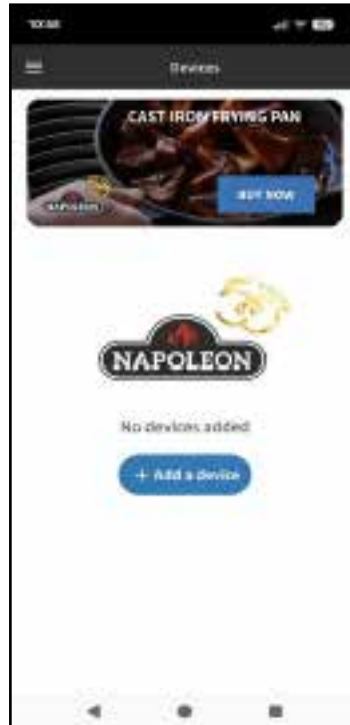

Fig 11
4. Select “Add Device” and accept permissions (**Fig 11 & 12**).